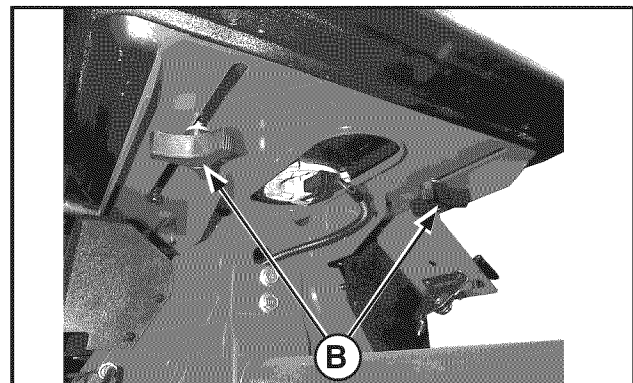

FIGURE 3
4. With the engine stopped, loosen the two adjusting knobs (**B**, Figure 3) and move the seat to the desired position. After adjustment, tighten the knobs securely.